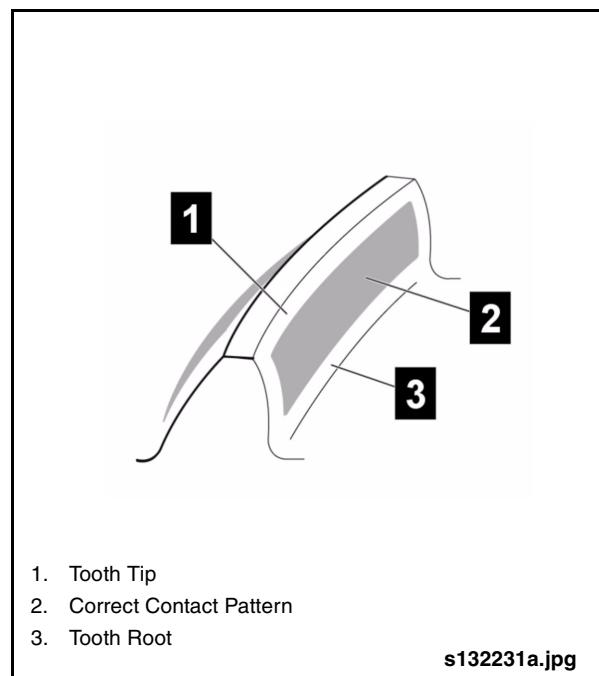

Fig. 2-73: Contact Pattern on Crown Gear
3. Check the contact pattern. See "Fig. 2-73: Contact Pattern on Crown Gear" on page 60.